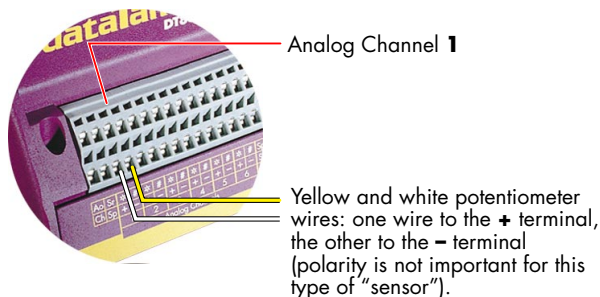

FIGURE 9 Connecting the potentiometer
▶ Attach the potentiometer supplied to analog channel 1 of your DT800 as shown in Figure 9.
- b) Connect the potentiometer's yellow and white wires to the + and - terminals of analog channel 1 on the front panel of the DT800, as shown in Figure 9.